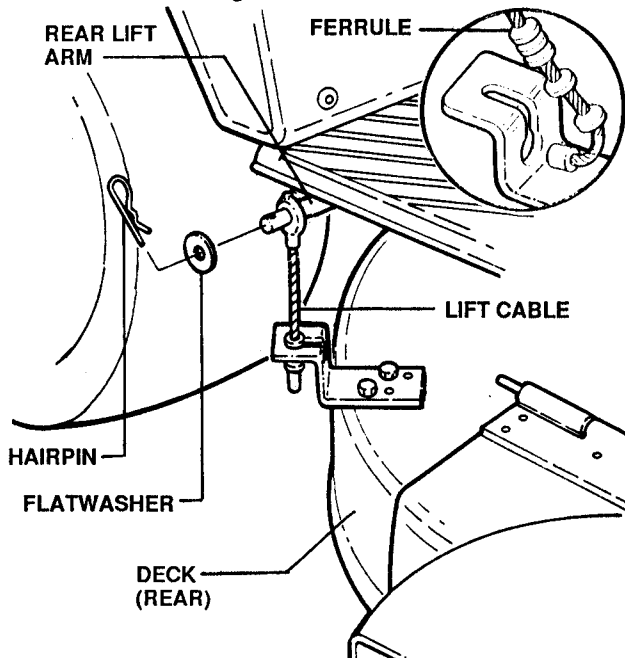

FIGURE 27
- Remove hairpins and washers from REAR LIFT CABLES. See Figure 27.